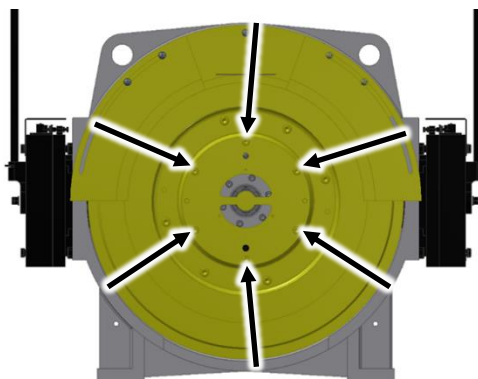

Figure 35
7. Install the six M10 bolts using the hex wrench (8mm). See Figure 35.